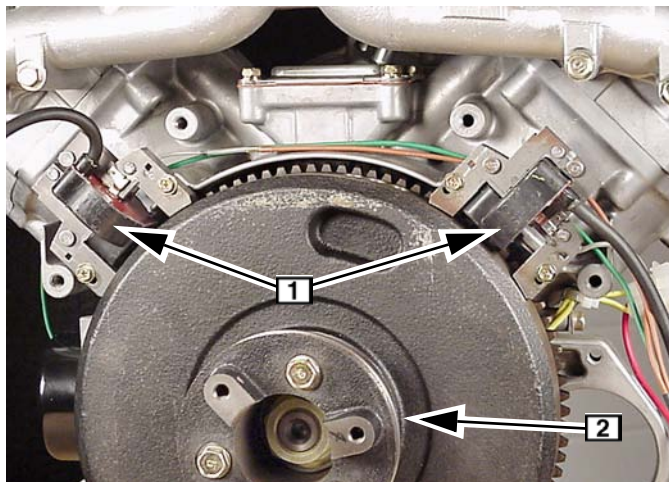

Fig. 49
- Remove armatures **1** and ground wire assembly, Fig. 49.